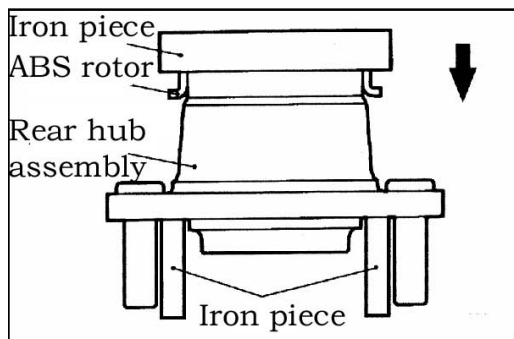

Fig. 13-8
(1) ABS rotor installation(see Fig.13-8)